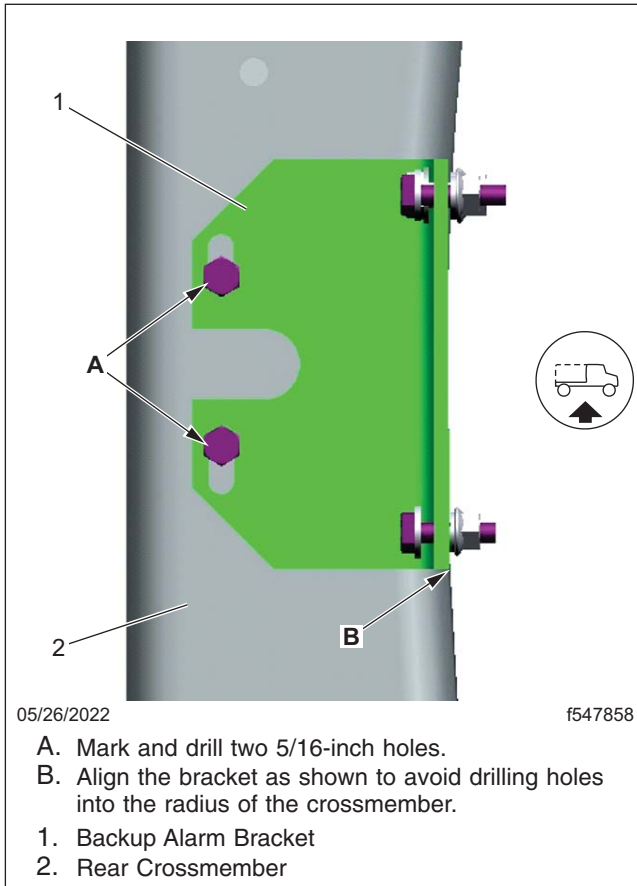
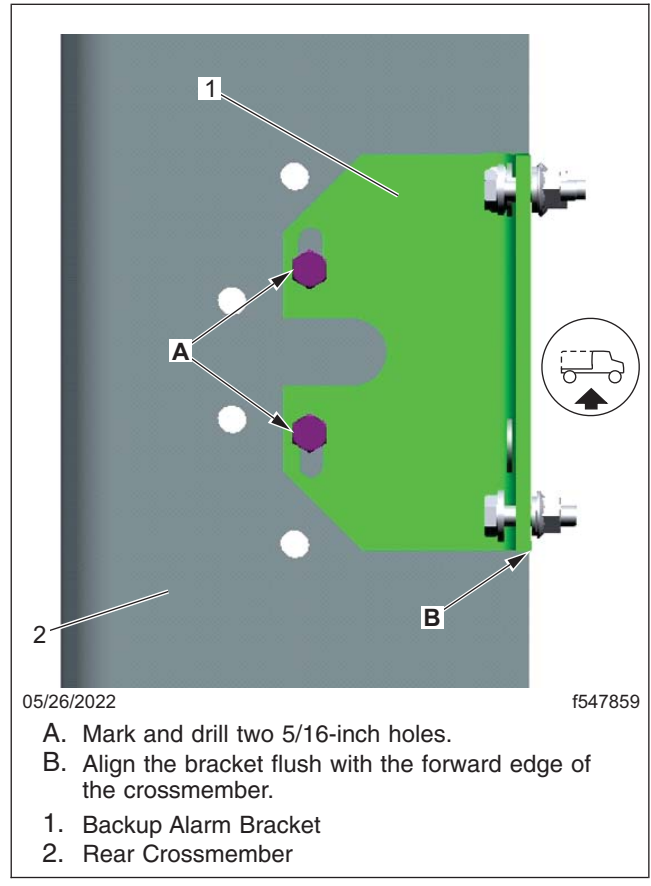

Fig. 8, Positioning the Backup Alarm Bracket, Vehicles with Tail Lamp Bracket Mounted on the Rear Crossmember
Fig. 9, Positioning the Backup Alarm Bracket, Vehicles with Tail Lamp Bracket Mounted on the Frame Rail
14. Position the backup alarm bracket onto the bottom flange of the rear crossmember, centered between the frame rails, and mark location of the holes to be drilled. See Fig. 8 and Fig. 9.